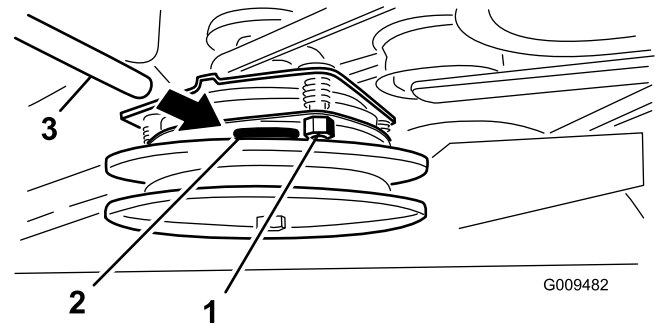

Figure 62
2. If adjustment is needed, use a .015 inch (0.381 mm) feeler gauge to set each of the three adjustment slot positions. Tighten the lock nuts until there is slight binding on the feeler gauge but it can be moved easily within the air gap (Figure 62).